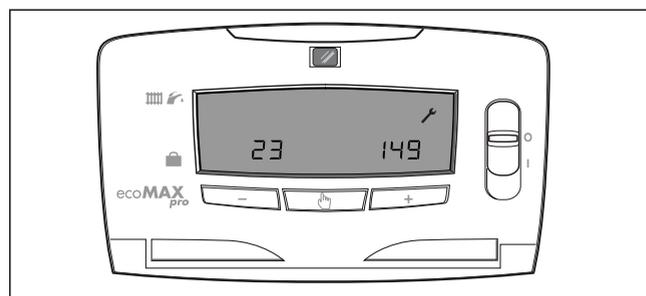

Fig. 17.2
- A series of screens are then available for service functions. An example is shown in fig. 17.2 (screen 23 'product code' for the ecoMAX pro 18E).